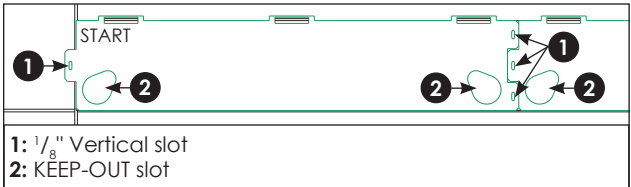

Figure 2: Panel-Interference Jig
- c. Use a marker to mark the outline of the KEEP-OUT slots and fill in the three 1/8" vertical slots. Refer to **Figure 2**.